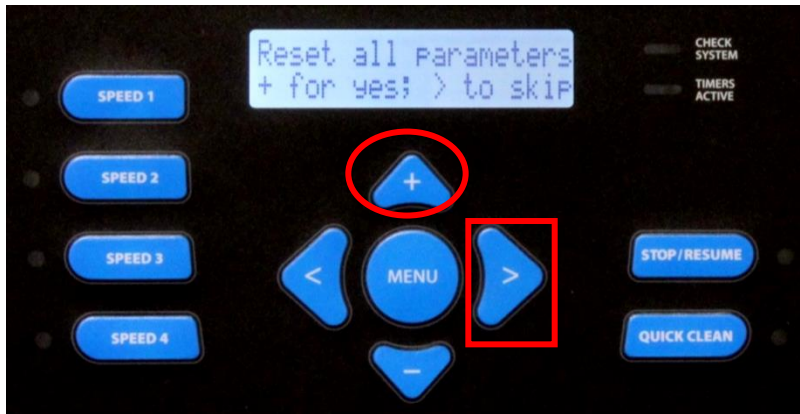
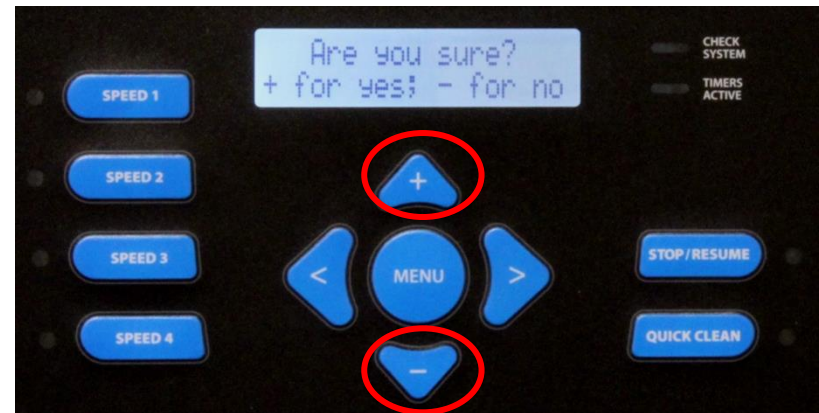

Figure 40
Figure 41
- At this point you will be asked if you would like to reset to the default parameters (factory settings) (fig 40). If yes, press  and confirm on the next screen. If no, press the  button to continue (fig 41).